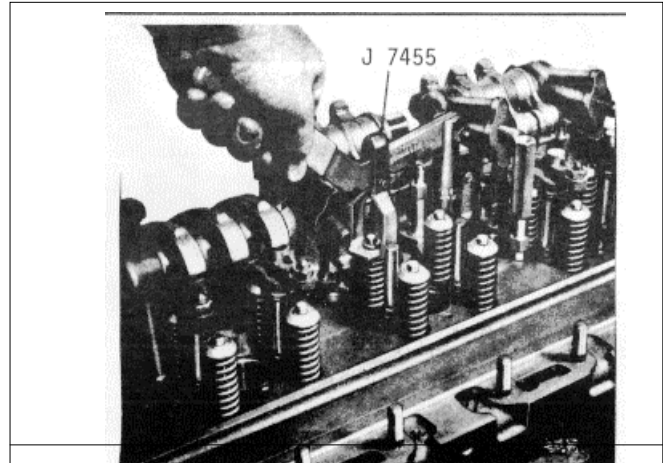

Fig.4
- (4) Remove the two bolts holding the rocker arm shaft brackets to the cylinder head. Then remove the brackets and shaft.
- (5) Remove the exhaust valve bridge. (6 Remove the cylinder block air box cover so that piston travel may be observed, then turn the crankshaft until the piston is at the top of its stroke.
- (7) Thread the valve spring compressor adaptor J 7455-7 into one of the rocker arm bracket bolt holes in the cylinder head (Fig.4). Then compress the valve spring and remove the two-piece tapered valve lock.
- (8) Release the tool and remove the valve spring cap, valve spring and spring seat.